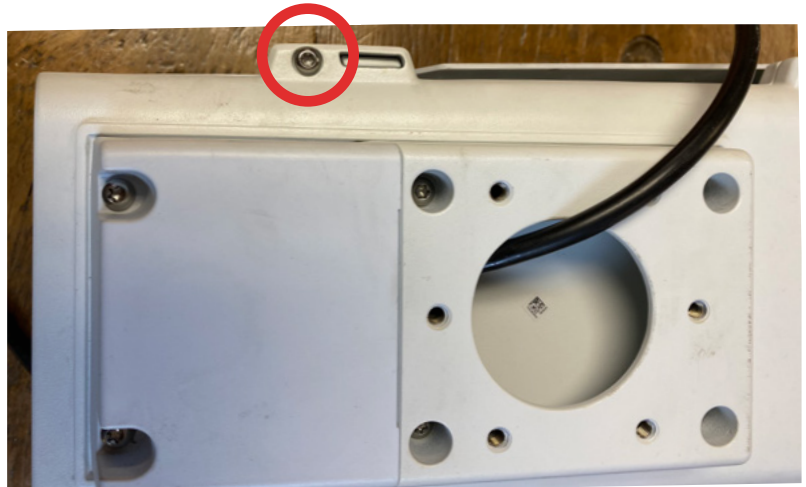

Figure 2
8. Using an Ohmmeter or Multimeter, verify continuity between the SMCH ground lug and one of the camera enclosure screw heads as seen in Figure 2.